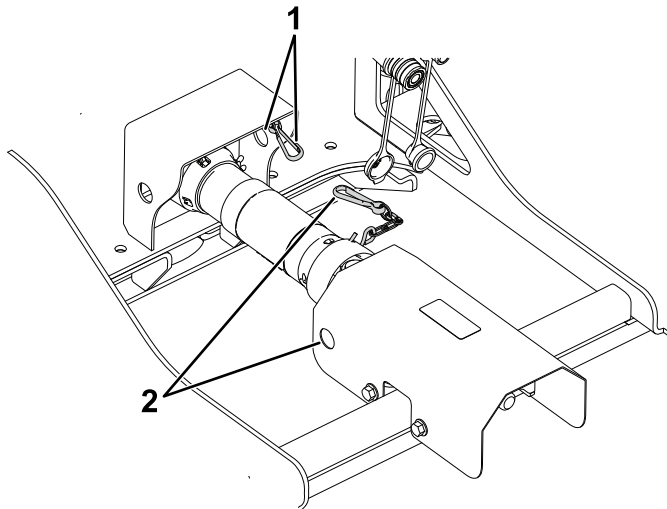

Figure 15
- 8. Connect the driveshaft-cover chains to the areas shown in Figure 15.